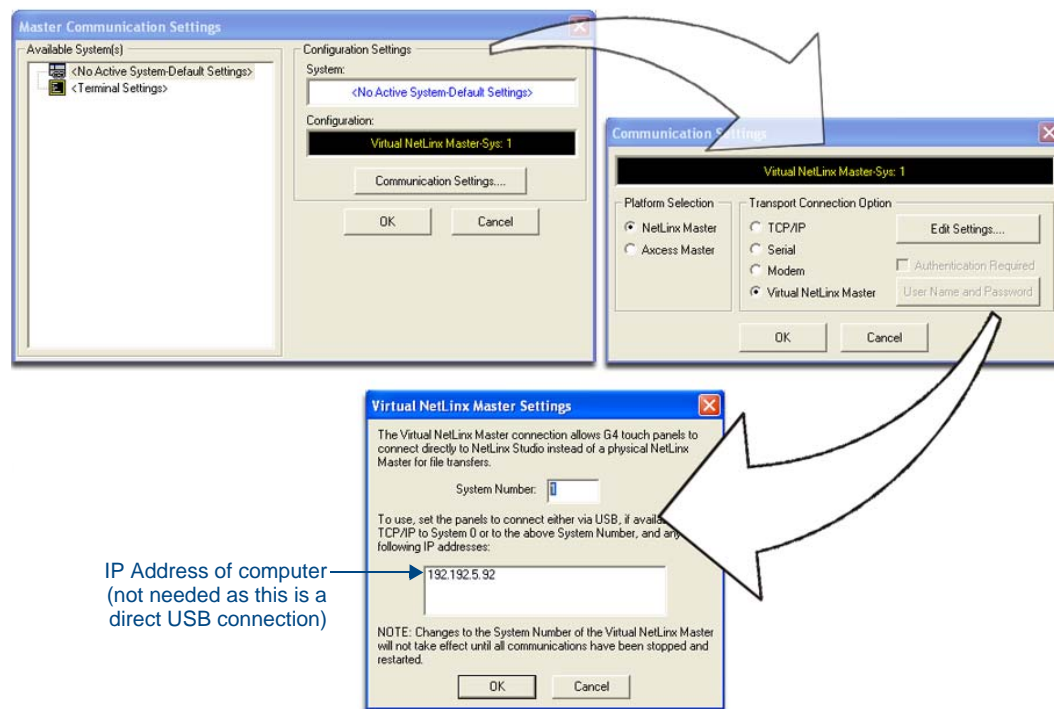

FIG. 47 Assigning Communication Settings for a Virtual Master
2. Select **Settings > Master Communication Settings**, from the Main menu to open the Master Communication Settings dialog (FIG. 47).
6. Click the **Edit Settings** button (on the *Communications Settings* dialog) to open the *Virtual NetLinx Master Settings* dialog (FIG. 47).